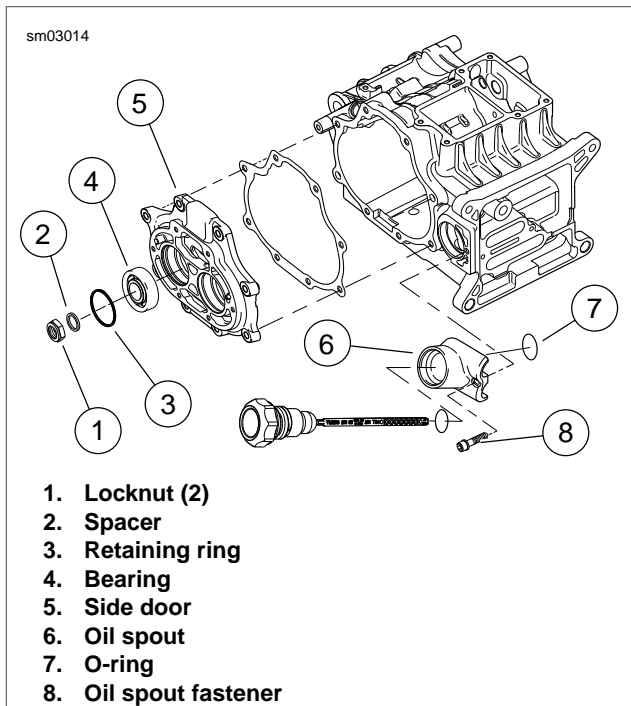

Figure 7-9. Side Door Bearings
9. See Figure 7-9. Remove oil spout fastener (8), oil spout (6) and o-ring (7). Discard o-ring.